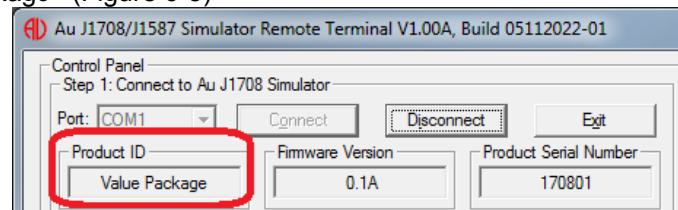

Figure 6-8
2. Launch Au J1708/J1587 Simulator Remote Terminal program. Select the serial communication port that was used to connect J1708/J1587 Simulator, e.g. COM1, then click "Connect" button, notice the Product ID shows "Value Package" (Figure 6-8)